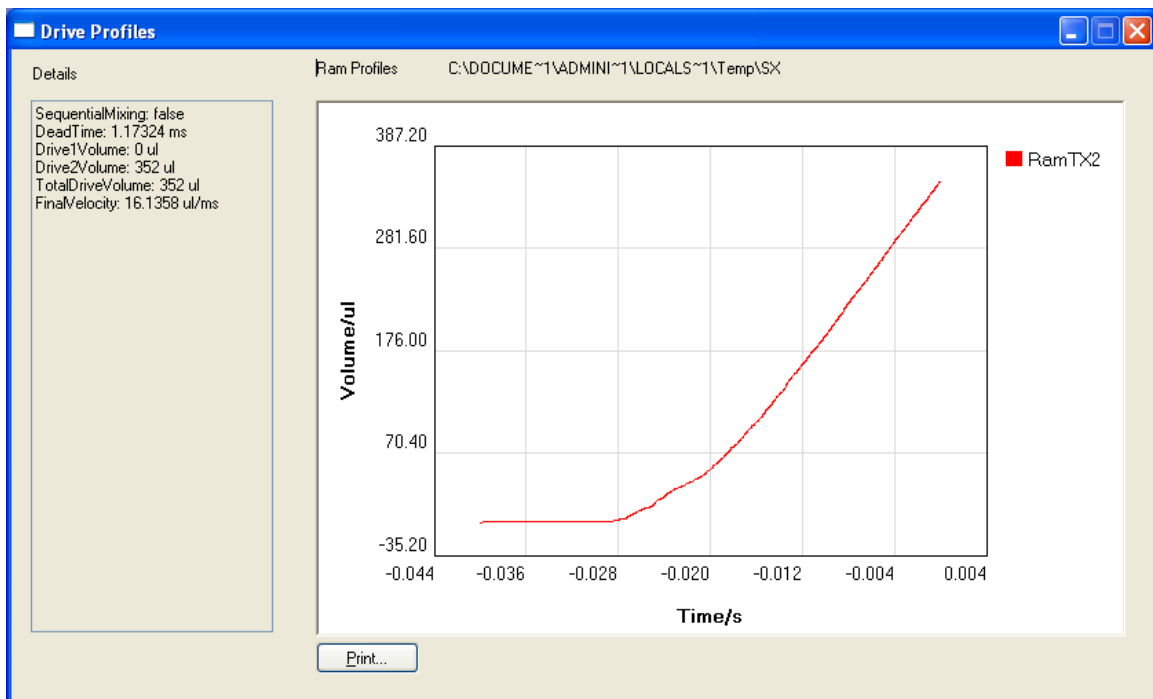

Figure 1.15 - Example of a drive profile
6. You will now find that the 'profile' button on the main Pro-Data SX software has become active. Click on it to view the drive profile which will call up a window similar to that in Figure 1.15.